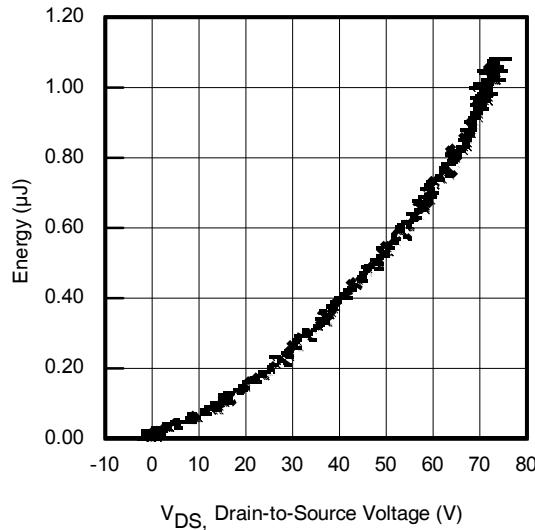

Fig. 11 Typical Coss Stored Energy
- ① Calculated continuous current based on maximum allowable junction temperature. Bond wire current limit is 56A. Note that current limitations arising from heating of the device leads may occur with some lead mounting arrangements.
- ② Repetitive rating; pulse width limited by max. junction temperature. (See fig. 11)
- ③ Limited by $T_{J\text{max}}$, starting $T_J = 25^\circ\text{C}$, $L = 0.12\text{mH}$, $R_G = 25\Omega$, $I_{AS} = 46\text{A}$, $V_{GS} = 10V$. Part not recommended for use above this value.
- ④ $I_{SD} \leq 46\text{A}$, $di/dt \leq 1920\text{A}/\mu\text{s}$, $V_{DD} \leq V_{(\text{BR})\text{DSS}}$, $T_J \leq 175^\circ\text{C}$.
- ⑤ Pulse width $\leq 400\mu\text{s}$; duty cycle $\leq 2\%$.
- ⑥ $C_{oss \text{ eff. (TR)}}$ is a fixed capacitance that gives the same charging time as C_{oss} while V_{DS} is rising from 0 to 80% V_{DSS} .
- ⑦ $C_{oss \text{ eff. (ER)}}$ is a fixed capacitance that gives the same energy as C_{oss} while V_{DS} is rising from 0 to 80% V_{DSS} .
- ⑧ When mounted on 1" square PCB (FR-4 or G-10 Material). For recommended footprint and soldering techniques refer to application note #AN-994
- ⑨ R_θ is measured at T_J approximately 90°C .